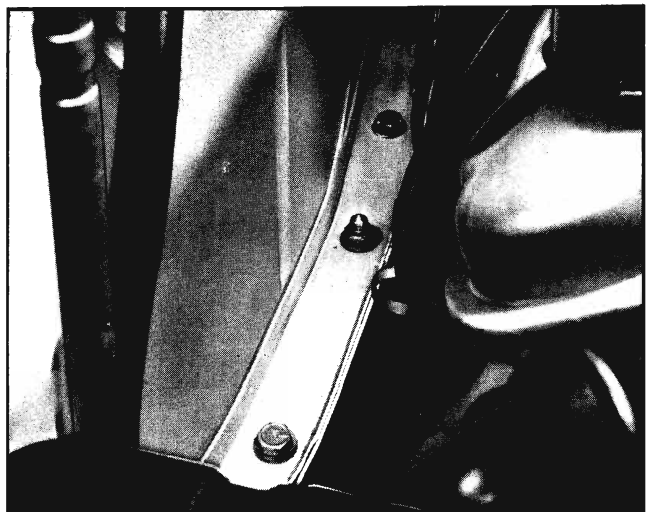

Fig. 3-28 Crossmember to Body Retaining Bolts
9. Remove three crossmember retaining bolts, washers, and nuts on each side of crossmember (Fig. 3-28).